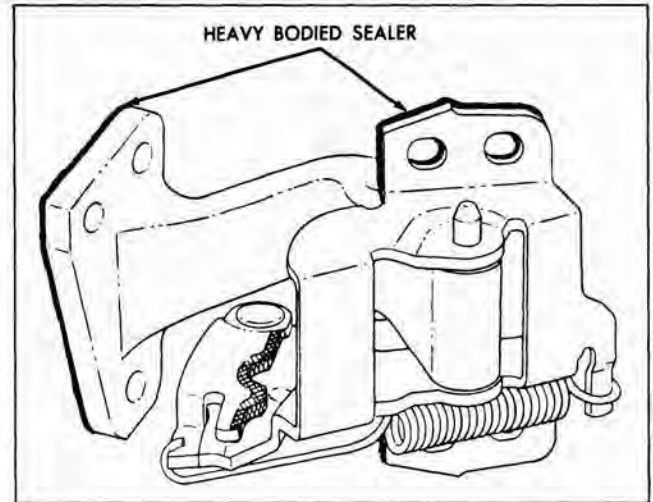

Fig. 3-19 Front Door Hinge Anti-Squeak
1. As an anti-squeak precaution, before installing door, coat attaching surface of hinge with heavy-bodied sealer (Fig. 3-19).